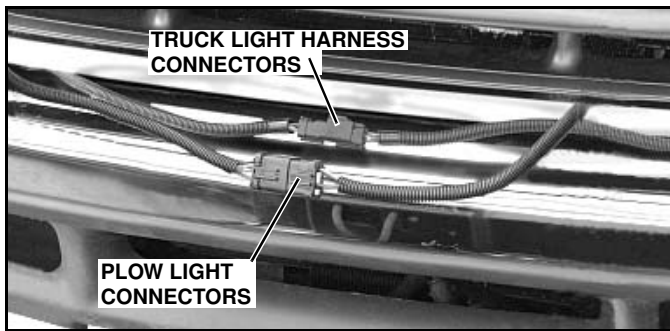

Figure 1-38
5. To make the truck lights operable, plug the male and female EIS® connectors on the truck light harness together. (See Figure 1-38).